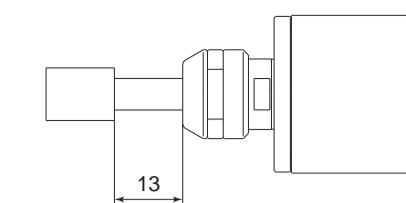

Fig. 15
- Do not exceed 13mm of overhang for mounted grindstones as shown in Fig. 15. If the overhang must exceed 13mm, reduce the motor speed in accordance with Table. 3.